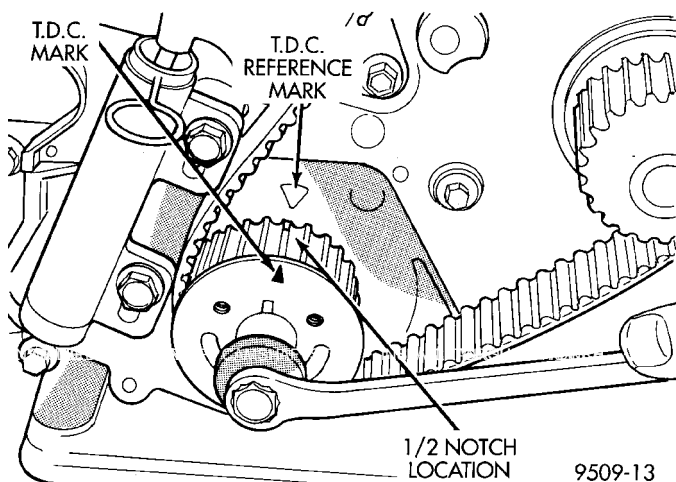

Fig. 48 Adjusting Crankshaft Sprocket for Timing Belt Installation
(6) Rotate crankshaft 1/2 tooth counterclockwise from TDC (Fig. 48).